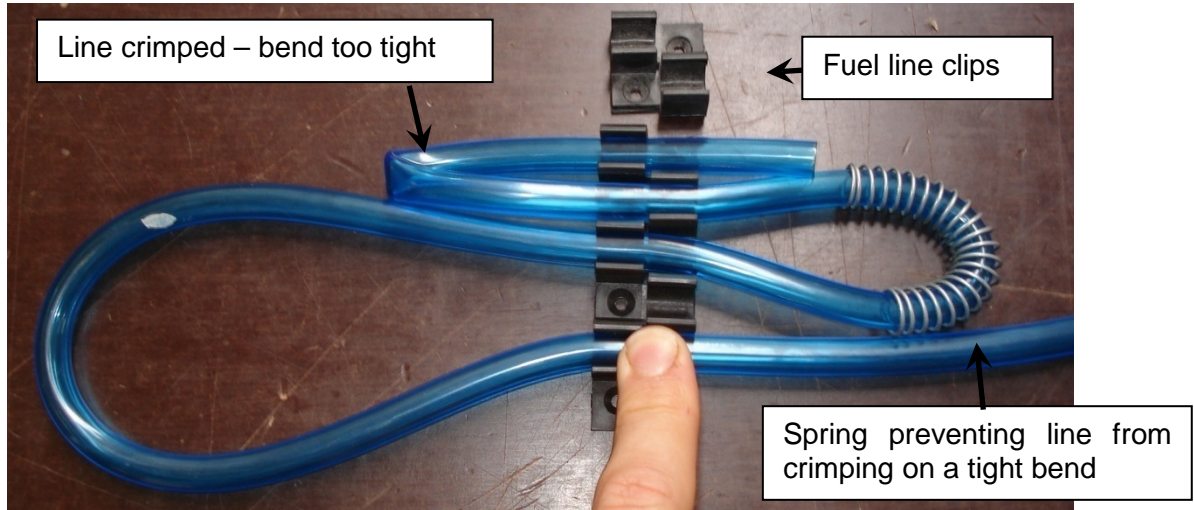

Figure 105 – Sample Fuel Line Details
- Ensure line restraints are spaced at intervals no greater than 400mm (In some cases fuel lines are bundled inside tubes which are Velcro-ed to the aircraft – this is sufficient restraint.) If new restraints are added, plastic line clips can be bonded to the aircraft structure. (Figure 105 refers). Fasteners such as screws, which damage the structure, should not be used.
spring may be threaded over the line to prevent it crimping. Springs must be a snug fit on the hose & are available from Jabiru Aircraft if required. Figure 105 refers.